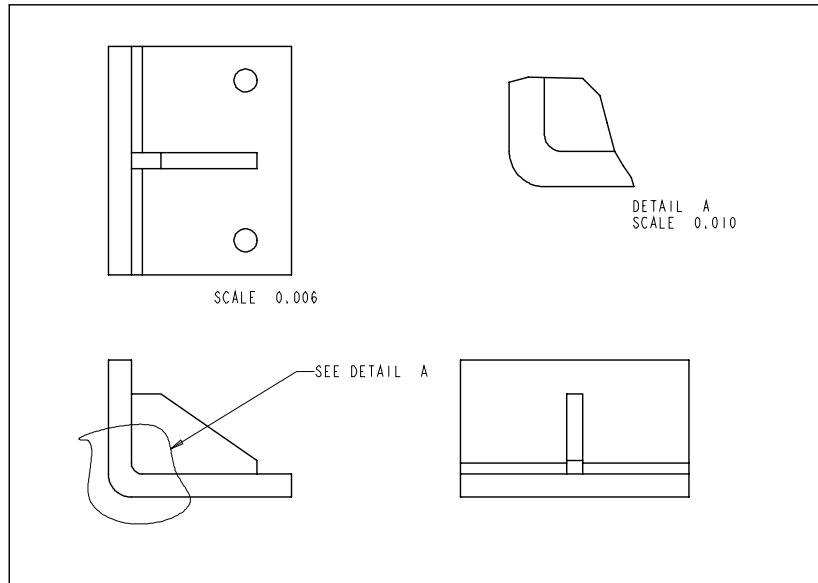

Figure 11-29 The drawing views before adding the dimensions
3. Specify the placement point for the top view close to the top left corner of the sheet as shown in Figure 11-29. As soon as you specify the point, the **Message Input Window** is displayed. Enter the scale factor for the view as **0.006** and press ENTER. The **Orientation** dialog box is displayed. The default view is placed on the point selected.
9. Specify the placement point for the front view below the top view as shown in Figure 11-29.
10. Similarly, place the right-side view and the detailed view on the drawing sheet as shown in Figure 11-29.